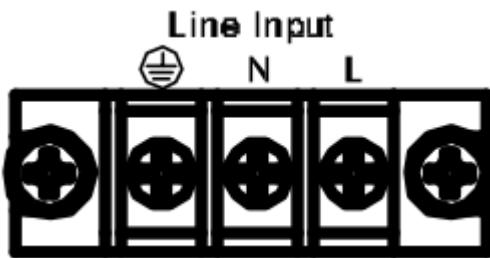

Fig 2-1 34000A Series AC Input Connection
- 2.2.2. Refer the drawing on the rear panel of 34000A Series high power load in Fig 2-1.